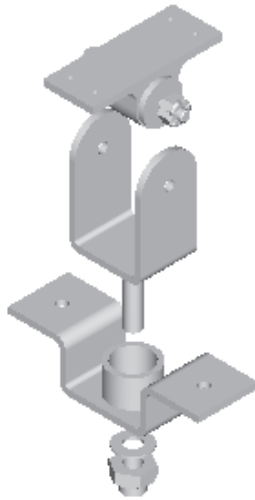

Figure 9-53 Creating the exploded state
5. Select the Washer and Bracket to move in the direction as shown in Figure 9-53. Now, you need to move the Castle nut, the two Bushings, the Hexagonal bolt, and the Pivot together as one component along the vertical axis selected earlier.
9. Press the middle mouse button and select the Pivot to place all the selected components as shown in Figure 9-53.